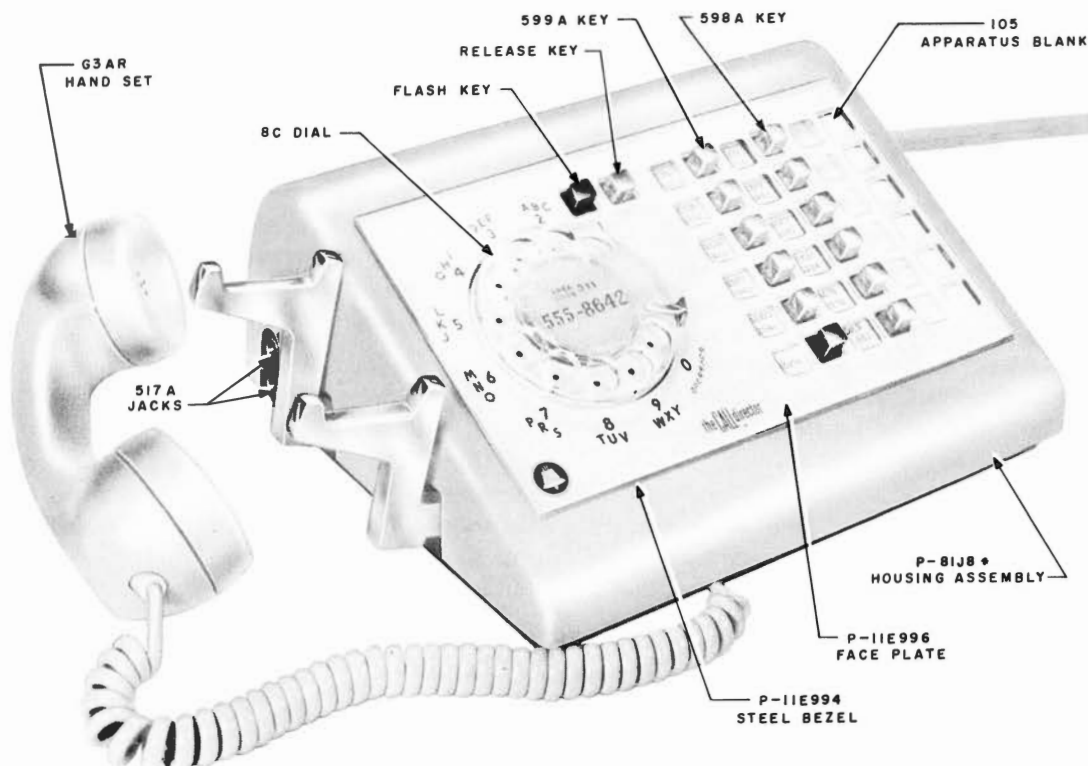

Fig. 1 — 638-Type Telephone Set
2.03 These sets have two 517A jacks at the left rear of the housing (see Fig. 1 and 2) arranged to receive a 289B plug for headset operation. When the plug of a 52- or 53-type operator's